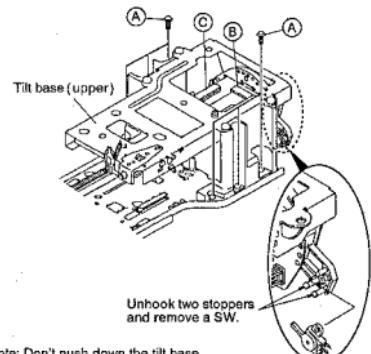
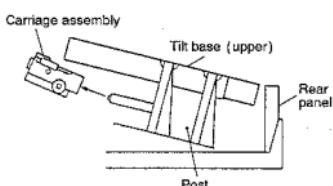

Fig. 5
Fig. 6
- ② Disconnect two connectors ④ and ⑤ from the CNNB assembly to remove the flexible cable (Fig. 5).
③ Remove six screws ⑥ from the post (L) and (R) to remove the tilt base.
④ Pull out the carriage assembly by setting the tilt base (upper) toward the upper (Fig. 6).
⑤ Unhook two stoppers and remove a SW.